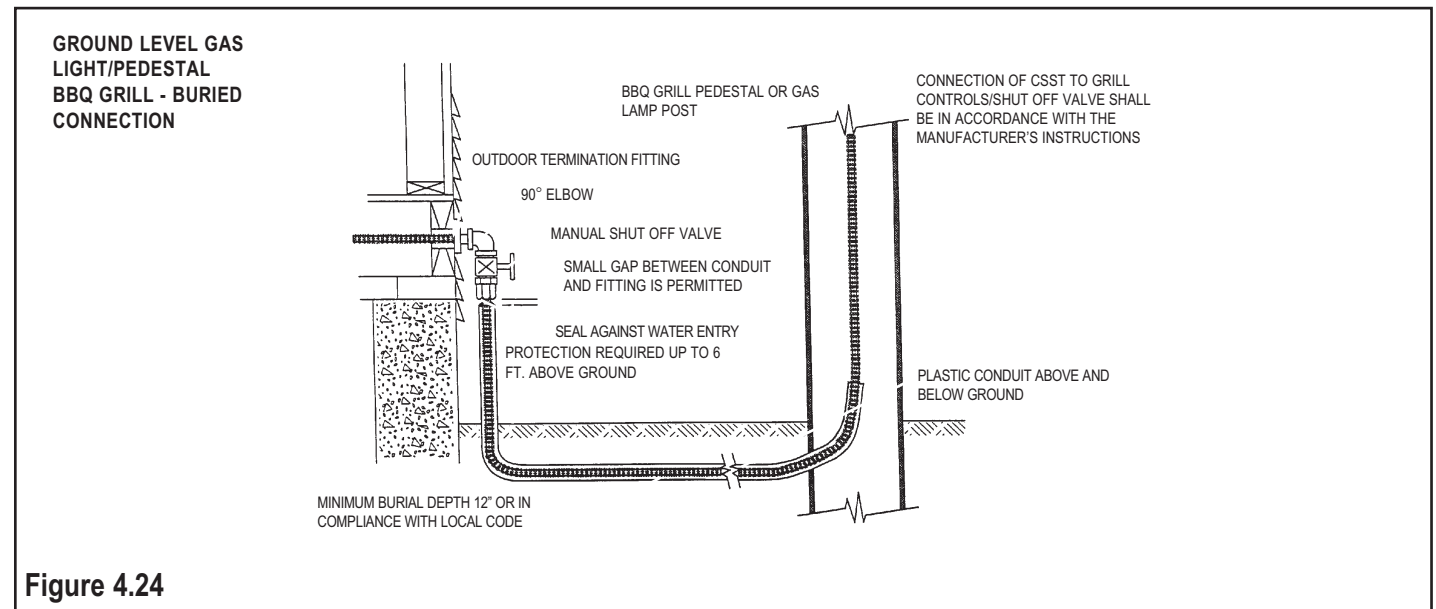

Figure 4.24
- D. Yard mounted lights shall be connected to the CSST system as shown in figure 4.24. All WARDFlex®/WARDFlex®MAX installed below grade shall be routed through nonmetallic watertight conduit and fittings protected in accordance with the requirements of section 4.3.6 Outdoor Installation.